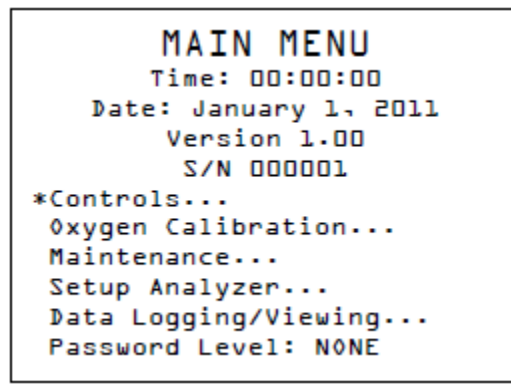
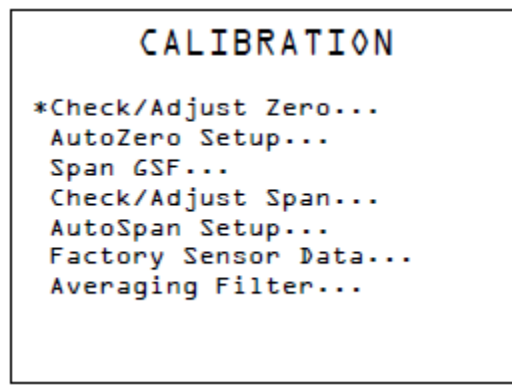

Figure 19: Main Menu
Figure 21: Oxygen Calibration Menu
- Pressing the ⏏ key while in the Oxygen display brings up the Main Menu display (Figure 19: Main Menu).
The analyzer menu tree is large but simple to navigate. To help you quickly locate a particular screen from this manual, the steps required are located above each menu (see Figure 19).
The Oxygen Calibration Menu is entered from the Main Menu, as shown in Figure 19: Main Menu, when the user wants to check the calibration or recalibrate the analyzer. The Oxygen Calibration Menu is shown in Figure 21.
The analyzer can be calibrated by selecting **Oxygen Calibration** from the Main Menu, Figure 19. This menu leads to other menus that provide options for automated (with optional equipment) and manual calibration. A zero or span calibration can be independently performed in either the automated or the manual mode.